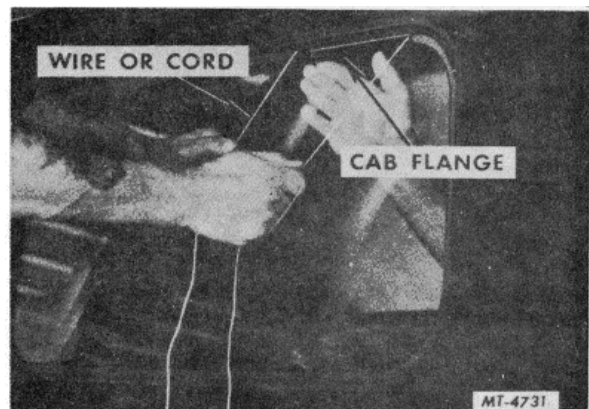

Fig. 34
6. Before completing the drawing operation of the rear window weatherseal, hold the cord which was pulled around the edge of the glass in one hand to prevent its being drawn out of position, then carefully pull the opposite end of the cord to complete the drawing operation, Fig. 34.